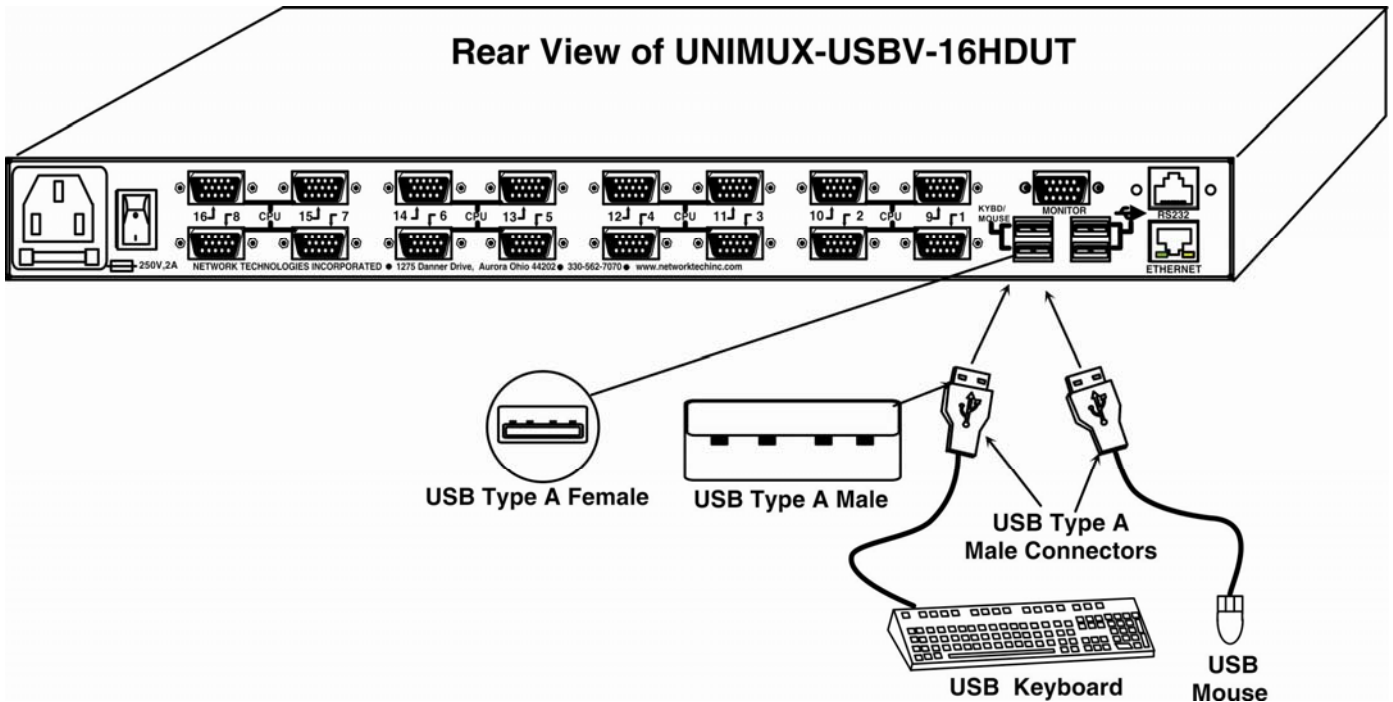
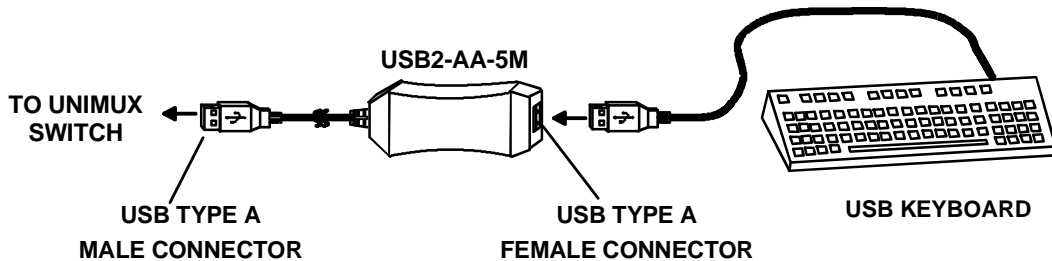

Figure 5- Install user devices (mouse and keyboard)
Figure 6- Use USB2-AA-5M to extend a device, or a computer
- Connect the user devices to the USB type A female ports labeled “KYBD/MOUSE” on the rear of the UNIMUX switch (see Figure 5 ). Connection to these ports will provide user control of the UNIMUX switch.
**Note:** If there are four (4) USB type A female ports present (models with transparent USB support only), then the two additional USB ports labeled with the USB symbol (  ) are available for connection of any USB device. However, the keyboard and mouse intended to control the UNIMUX switch must be connected at the USB ports labeled “KYBD/MOUSE”.
**Note:** If device cables are not long enough to reach the UNIMUX switch, they can be extended up to 20 meters using up to 4 NTI USB2-AA-5M USB 2.0 Active Extensions (see Figure 6)- purchased separately. Contact your NTI salesperson for more details by calling (800) 742-8324 (800-RGB-TECH) or (330) 562-7070 or visit our website at <http://www.networktechinc.com>.